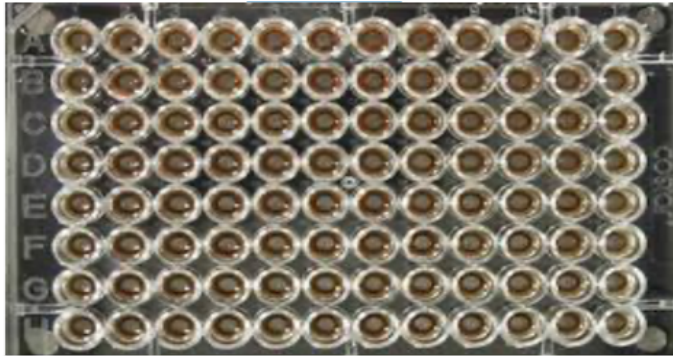

Figure 5: Extraction Plate during wash step on magnetic plate.
9. After the 5 minute incubation, remove as much of the 400 μ L of the supernatant as possible. Be careful not to disturb or aspirate the beads. See Figure 5.